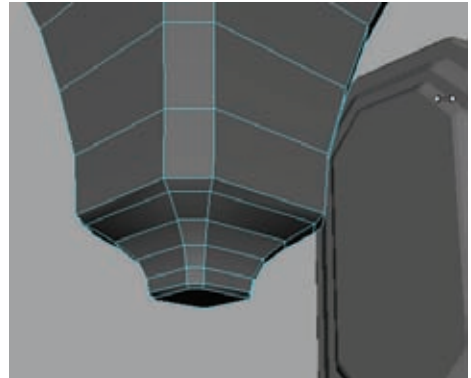

Figure 6.3
14. In the Channel Box, scroll down to the bottom of the most recent Extrude's options to the Divisions value. Increase the Divisions to 3, adding some horizontal cuts to the extruded shape. Select the middle row of edges (or faces) and, locking the y-axis, scale your selection inward to curve the shape as in Figure 6.3. You can slightly bevel the bottom face.